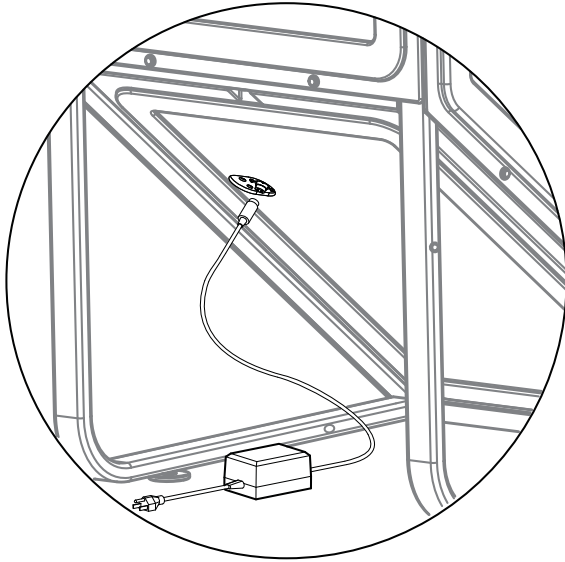

Figure 10
**10-1** Connect the DC Power Cable from the Power Supply to the power connector located on the bottom cover (Figure 10).